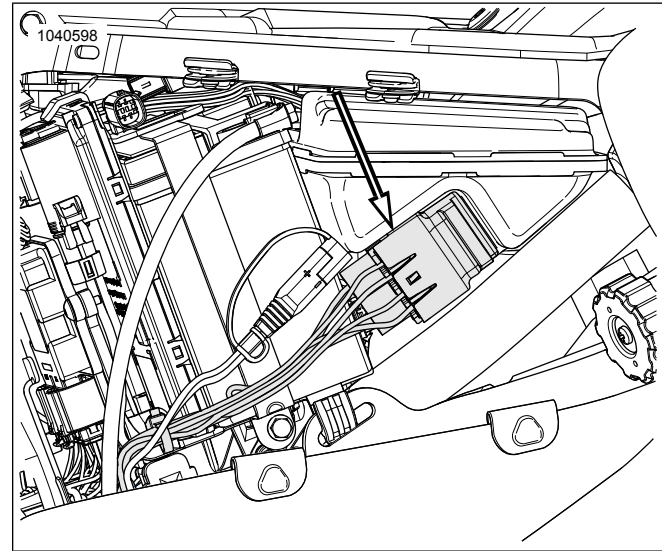

Figure 66. Fuse Block
3. See Figure 66. Pull the fuse block from the oil tank.